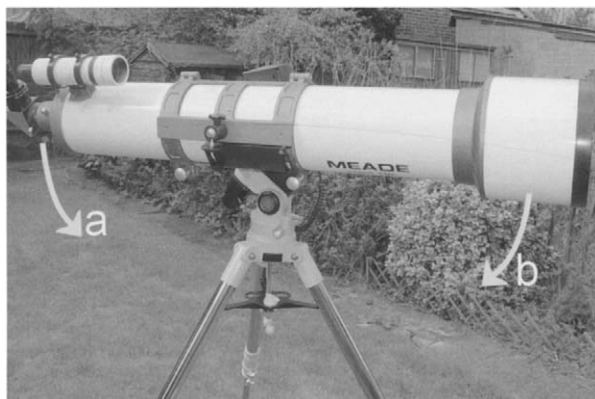
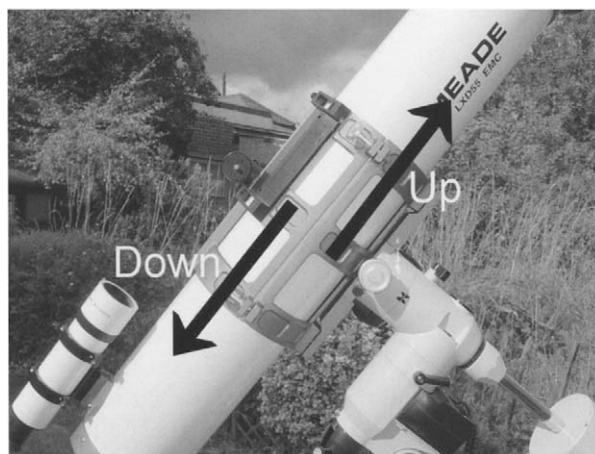

Figure 4.6.
Figure 4.7. OTA
2. If the telescope is out of balance it will rotate around the Dec axis on its own accord. Once again, one hand should be gently rested on the OTA, to prevent any damage in case the OTA rotates too rapidly. Figure 4.6 shows an example of the AR-6 OTA movement when it is out of balance.
3. Note which way the OTA rotates around the Dec axis. If the *lower* half of the OTA rotates towards the ground (denoted by 'a' in Figure 4.6) then the whole tube assembly needs to be moved further *up* through the cradle rings (shown as up arrow in Figure 4.7). Alternatively, if the *upper* half rotates towards the ground (denoted by 'b' in Figure 4.6) then the OTA needs to be moved further *down* through the cradle rings (shown as down arrow in Figure 4.7). Remember to lock the Dec each time before moving the OTA up or down through the cradle rings.